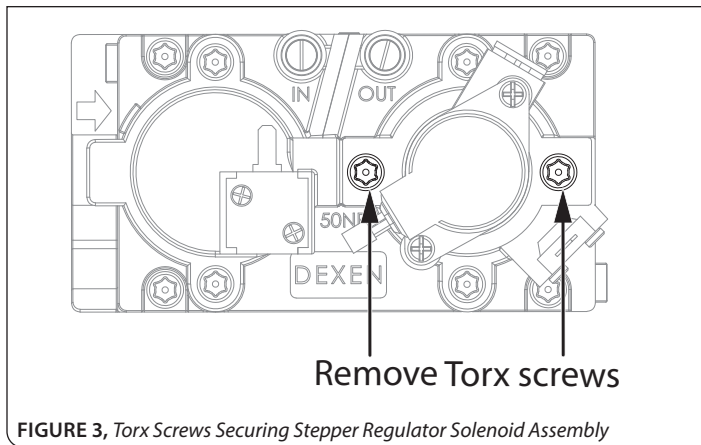
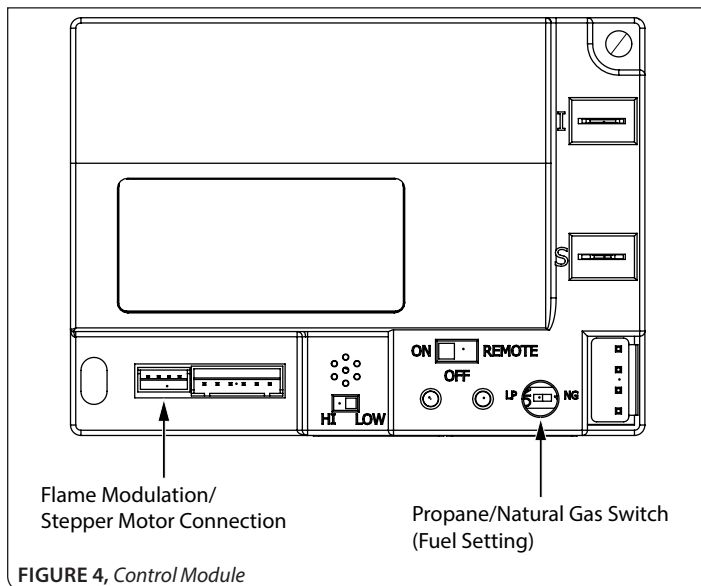

FIGURE 3, Torx Screws Securing Stepper Regulator Solenoid Assembly
FIGURE 4, Control Module
- Step 1: With a T20 Torx (star-bit) driver, remove (2) screws from the regulator solenoid assembly. See **FIGURE 3**.
- Step 5: Secure the assembly to the gas valve with (2) screws previously removed. **DO NOT OVERTIGHTEN!**
- Step 7: Slide the fuel type selector to NG. See **FIGURE 4**.